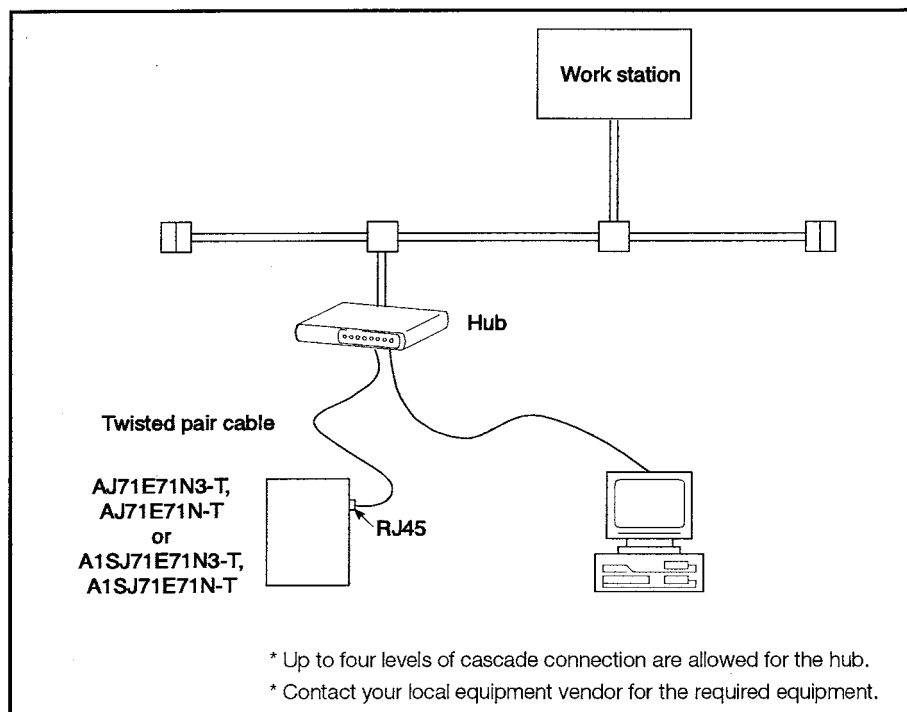

Fig 2.4 Example System Configuration
- 3** The devices shown in Figure 2.4 are required when connecting to the 10BASE-T. The user will please arrange the required devices in advance.
- ① Unshielded twisted pair cable (UTP) or shielded twisted pair cable (STP) category 3, 4, 5
- ② RJ45